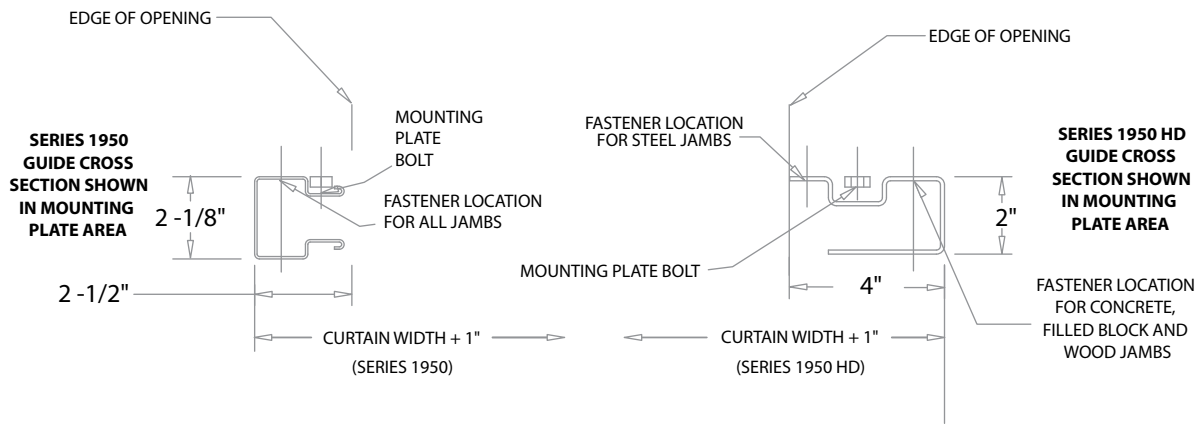

FIGURE 3
- B. The guides should be mounted centered about the opening and spaced curtain width + 1" apart, measured from back of guide to back of guide. **See figure 3.** Both guides must be plumb.